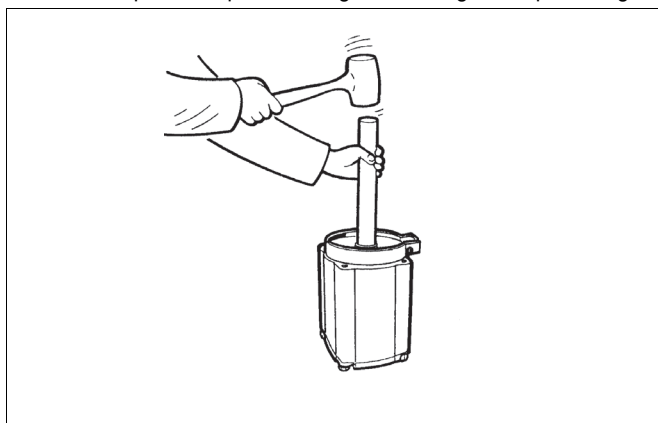

Fig. 7 Placing the piston in the cylinder
- Knock or press the piston through the tie ring with a press, Fig. 7.